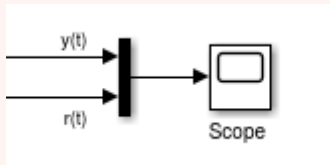
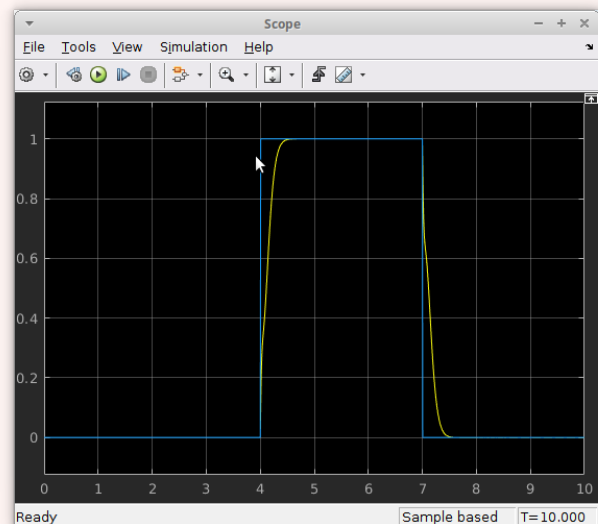

Figure 4.
Figure 9.
5. Plot the response of the control loop alongside the reference signal (Figure 4, Figure 9).